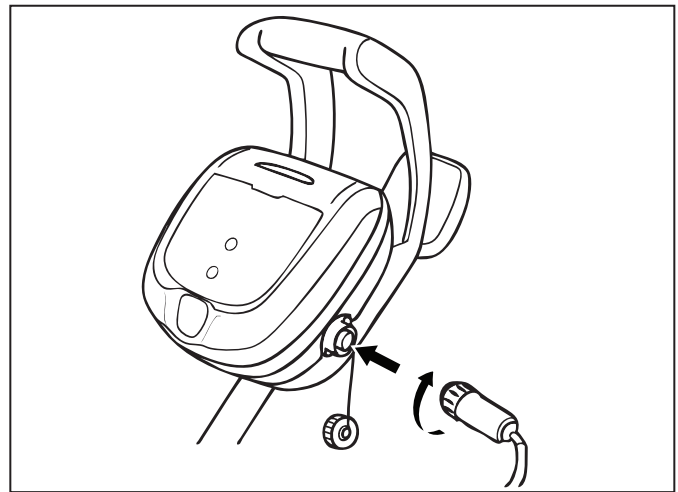

Figure 12. Connect Power Cable
2. Insert the end of the floating power cable into the control unit and turn clockwise to tighten. Do not overtighten (Figure 12).